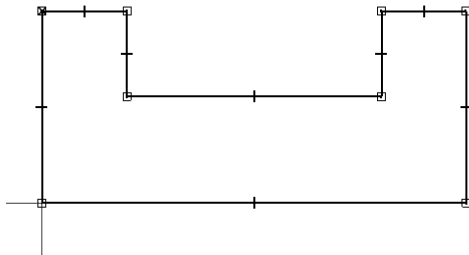

Figure 2-31 Sketch after drawing lines
14. Choose the **Select** button from the **Select** group in the **Home** tab of the **Ribbon** to exit the **Line** tool. The sketch after drawing the lines is shown in Figure 2-31.